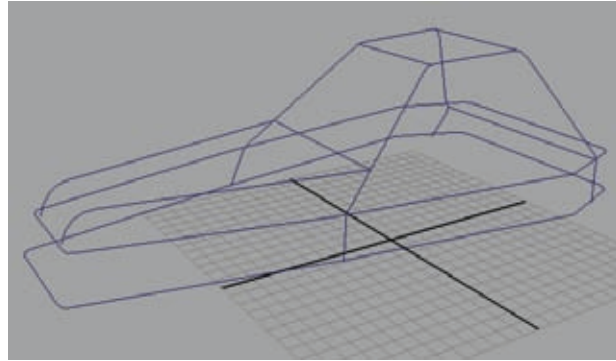

Figure 4.6
14. Back in the Perspective view, reposition the hood curve so that its base is at the corner of the cockpit and the hood curve ends at the front corner of the buggy frame, as in Figure 4.6. Mirror the hood curve for the other side.